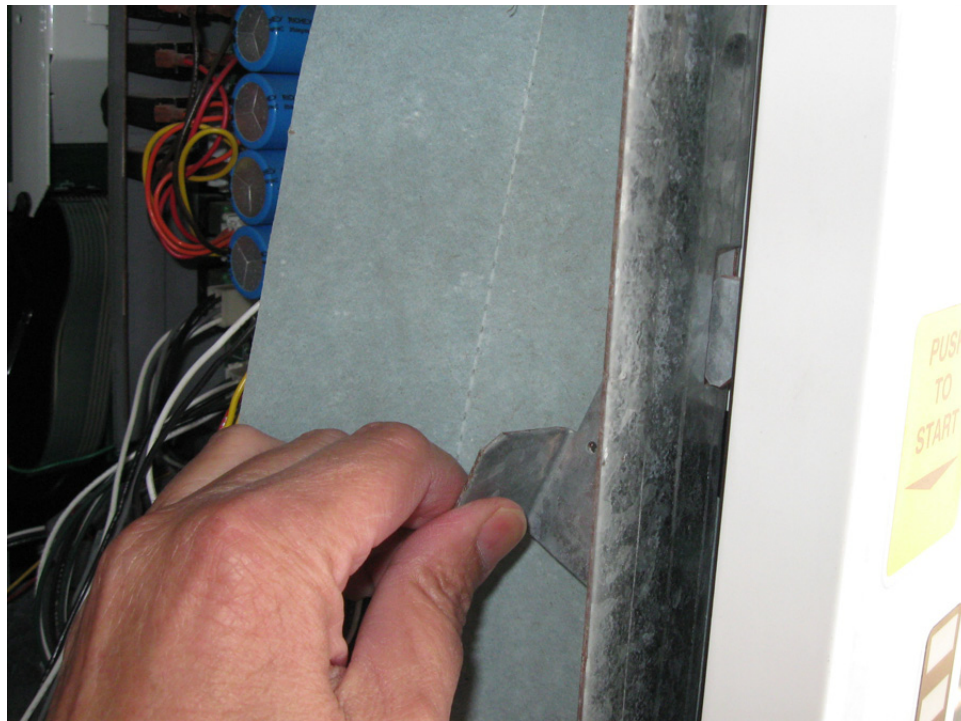
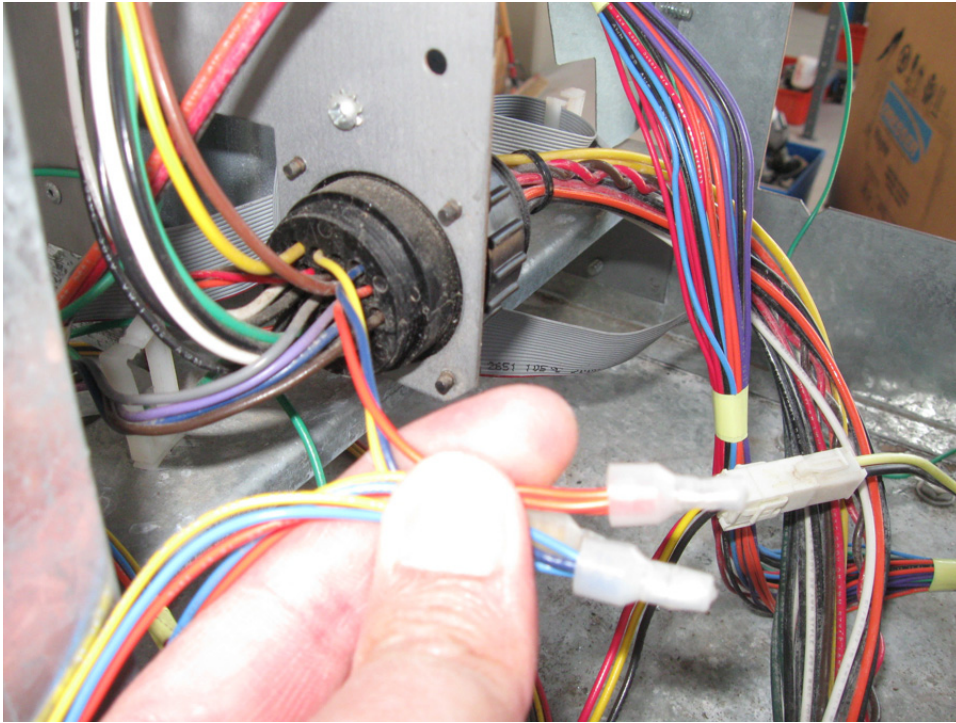
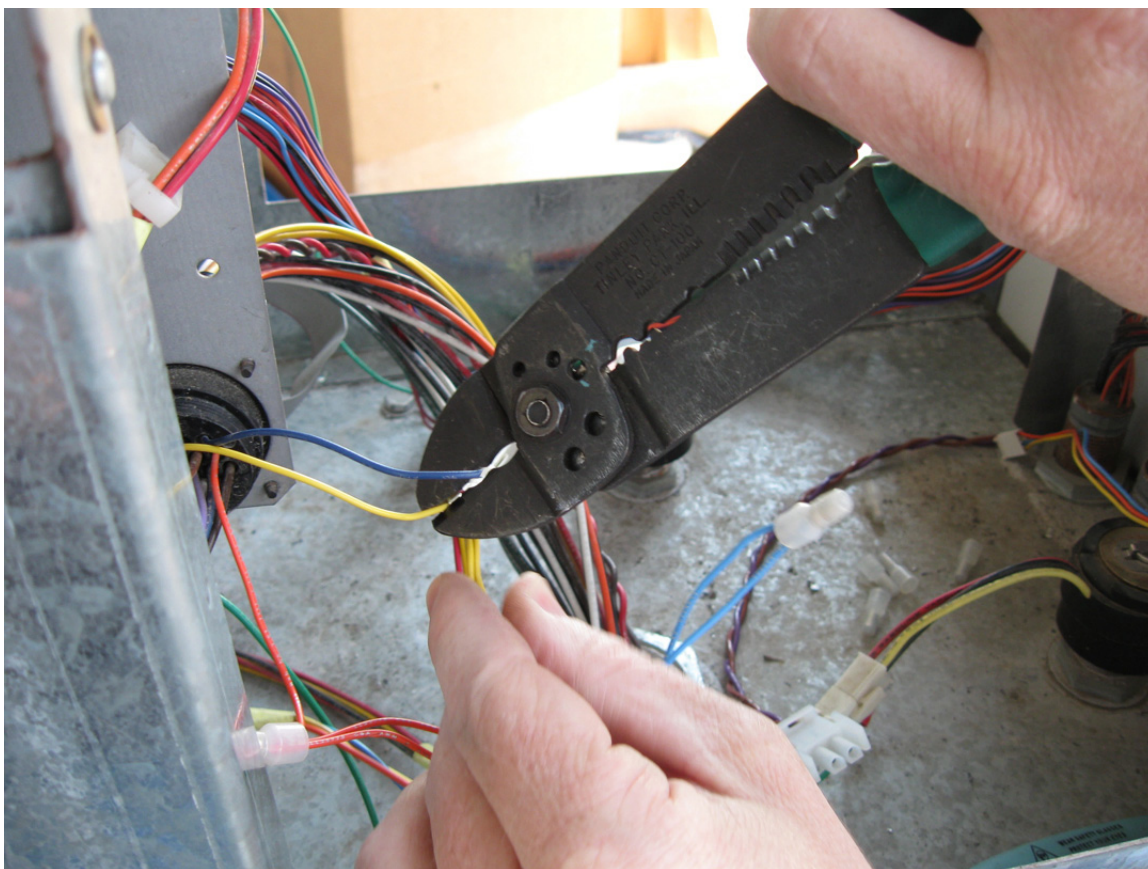

FIGURE 2
FIGURE 10
FIGURE 11
1. On both sides of dispenser, unlock and open printer door, then unlatch the right door. (The latch is behind the door, Figure 2.)
24. Locate the existing RS485 (Blue, Orange and Yellow) wires that are wire nutted together as shown in Figure 10. Cut these wires a few inches from the large connector as shown in Figure 11. Discard the wires that are still wire nutted together. Locate the crimp connectors on the RS-485 wiring harness Figure 10, then remove connectors/cut connectors and discard harness. Strip the Blue and Yellow wires.
30. Remove C-clips and latches (Figure 2) from existing doors and reinstall on the new extension foot frame (Figure 10).